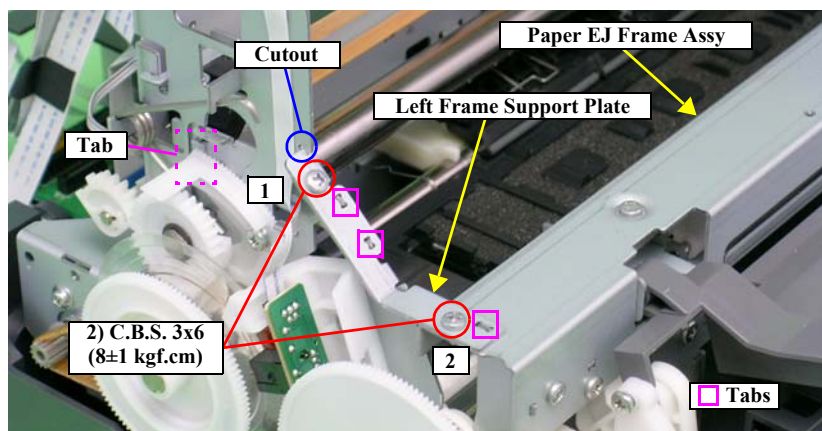

Figure 4-58. Removing the Left Frame Support Plate
- Insert the Left Frame Support Plate into the cutout of the Main Frame. See Figure 4-58.
- Align the two tabs on the Main Frame and the tab on the Paper EJ Frame Assy with the three positioning holes on the Left Frame Support Plate. See Figure 4-58.
- Align the tab (rear side) of the Left Frame Support Plate with the outside of the Left CR Shaft Mounting Plate. See Figure 4-58.
- Tighten the screws in the order shown in Figure 4-58.